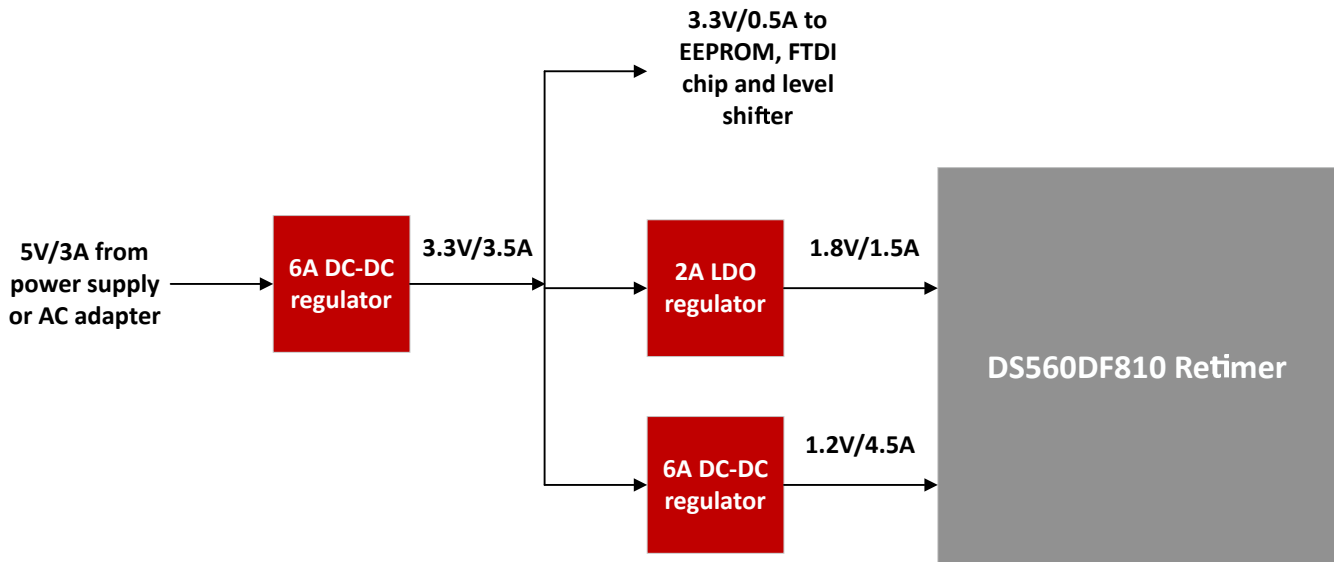

Figure 1-2. DS560DF810EVM Power Tree
6. The 5 V voltage is regulated down to 3.3 V on the EVM (refer to Figure 1-2).